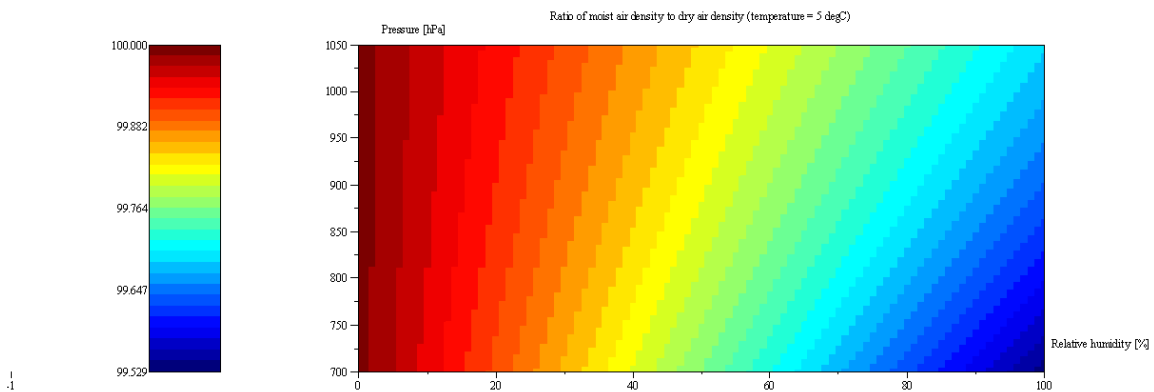
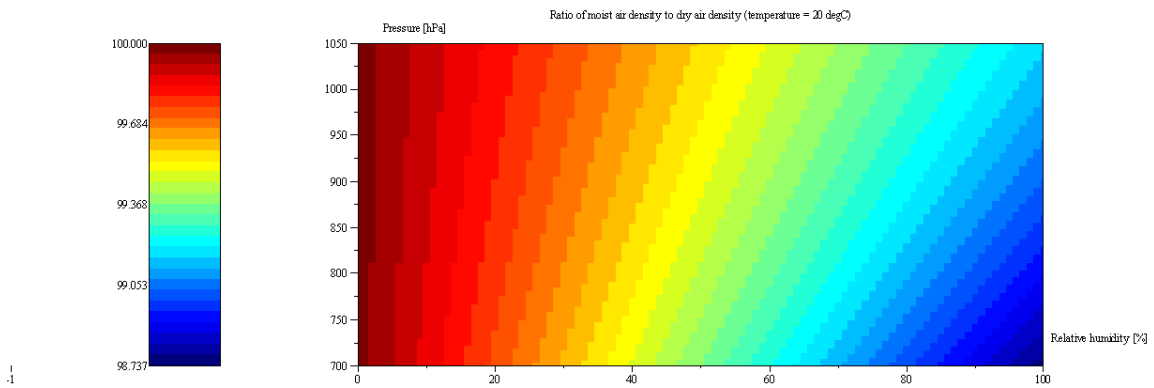

Figure 5: Density Ratio for Temperature = 5 deg C in [%].
Figure 8: Density Ratio for Temperature = 20 deg C in [%].
This equation (8) is now used to make a sensitivity study of the influence of moist air. This is done by calculating the ratio of moist air density to dry air density. This calculation is shown – for temperatures 5°C - 20°C in the figures below. From the Figure 5 - Figure 8 it is observed, that the density influence of moist air is less than 1.7 percent for the considered temperature range. Higher temperatures yield a higher influence. For wind turbine applications the air moisture density influence could – in most cases – be ignored (i.e. it is a reasonable assumption to use the dry air properties).